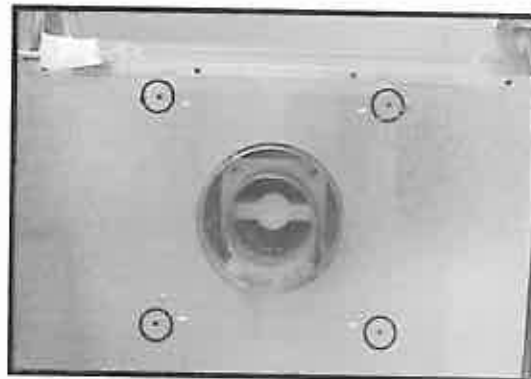

Figure 15 - Place Plate on Rear of Appliance
11. Locate the plate removed in Step 2. Place the plate around the rear vented collars and replace the four screws to hold the plate in place. See Figure 15.